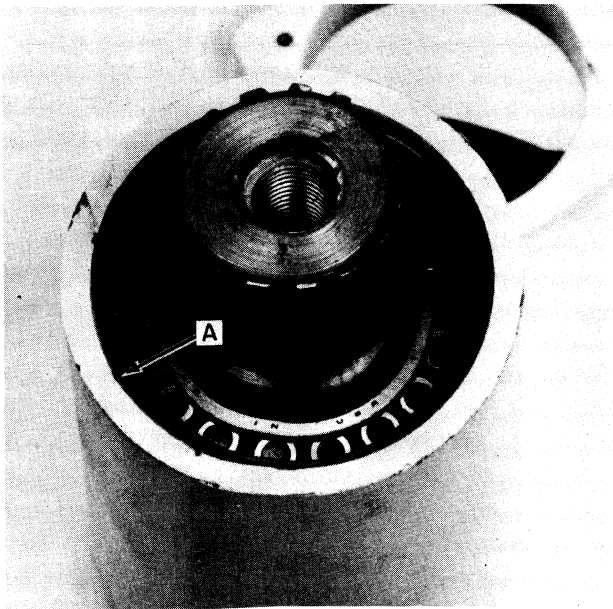

FIGURE 5A-14
7. Remove snap ring, A, Figure 5A-14.